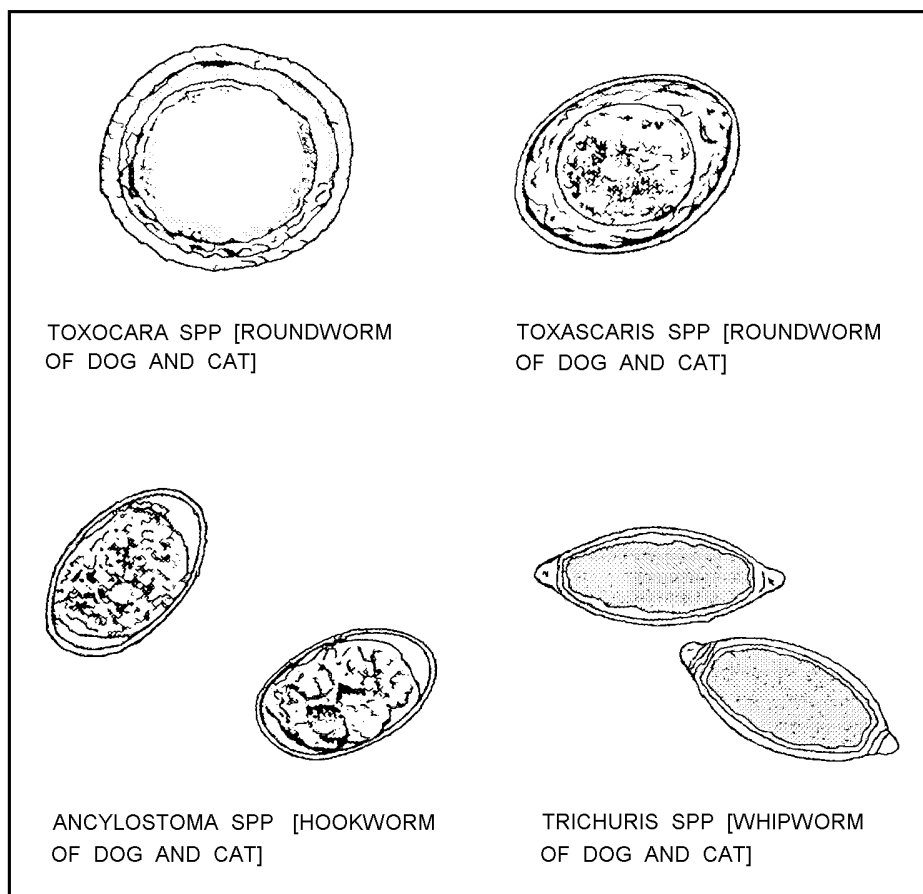

Figure 3-4
- b. Scan the smear for the presence of parasite eggs using the low power (10X) objective. (Refer to Figure 3-4.)